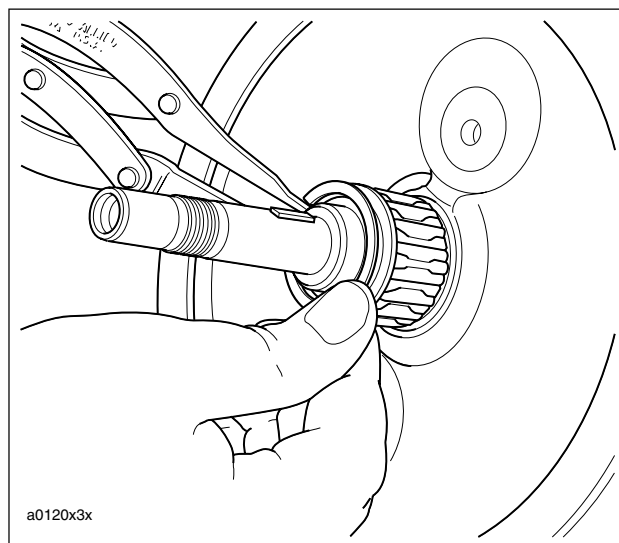

Figure 3-130. Pinion Shaft Bearing
12. See Figure 3-130. Install pinion shaft bearing.